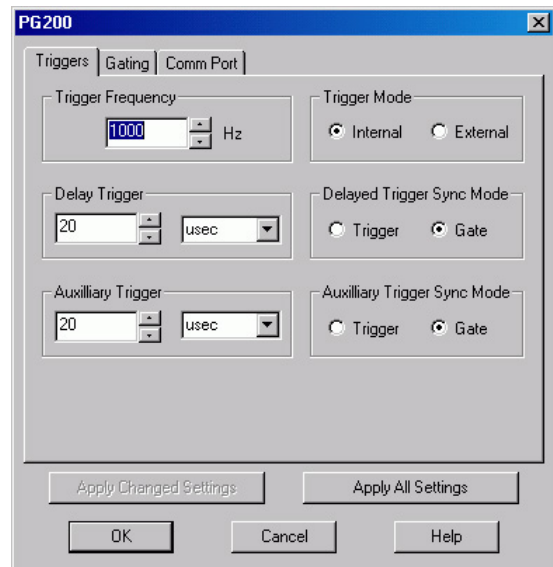

Figure 165. PG200 Triggers tab page
8. Click on the **Triggers** tab (Figure 165).